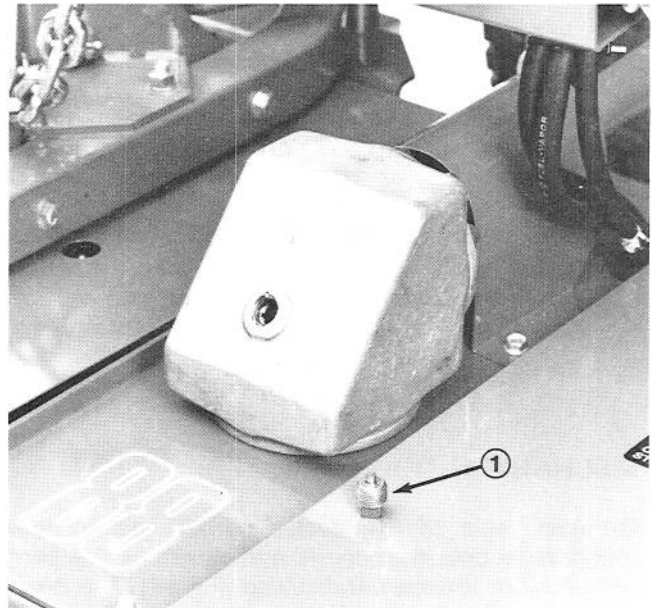

Figure 17
2. Remove filler plug from front gear box (Fig. 17) and make sure lubricant is up to bottom of hole. If level of lubricant is low, add enough lubricant to bring it up to bottom of fill hole.